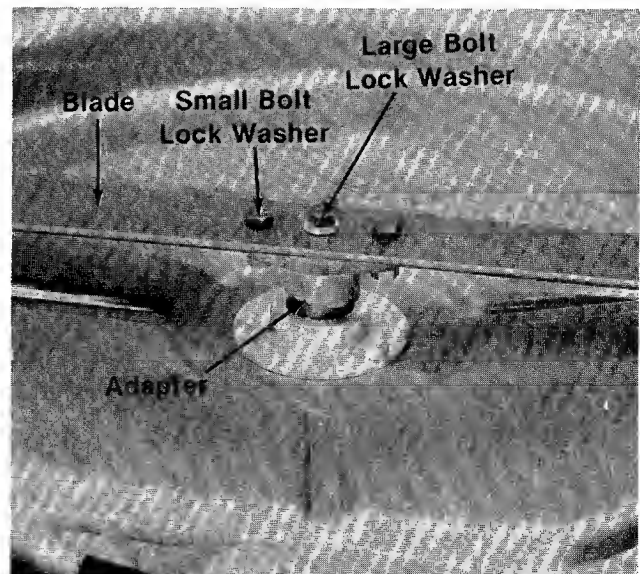

FIGURE 46.
1. Remove large bolt and lock washer which holds the blade and adapter to the blade spindle. See figure 46.